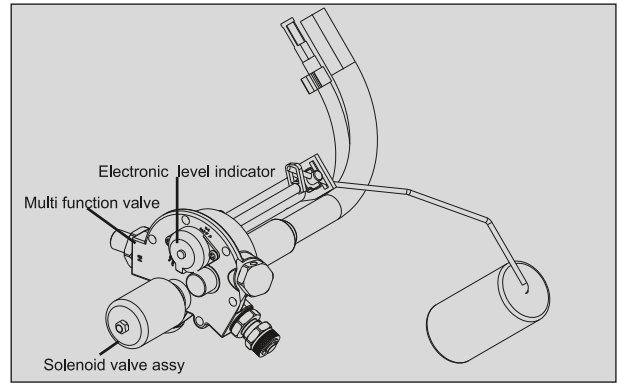

Fig. 6.68
- Connect multimeter '+ve' probe of multimeter to the Red (R) wire and '-ve' probe of multimeter to the Black (B) wire. (Fig. 6.68)